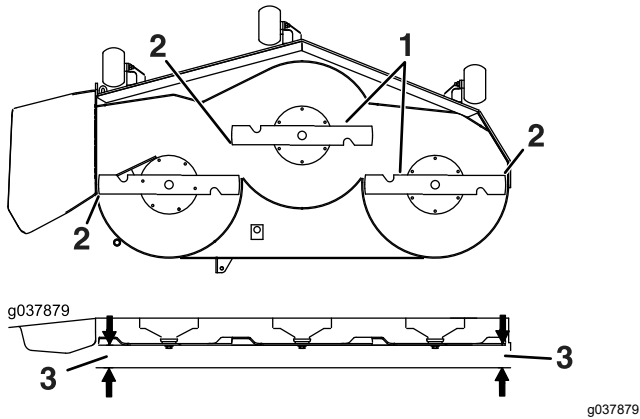

Figure 95
6. Measure between the blade tip and the flat surface (Figure 95). If both measurements are not within 5 mm (3/16 inch), adjust the leveling; continue with this procedure.